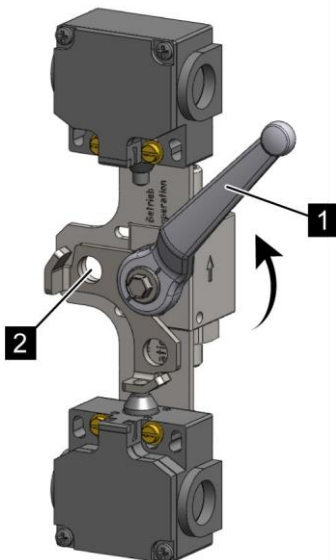

Fig. 27: Resetting the isolation (optionally with 1 or 2 limit switches)
3. ➤ Open and remove the padlock at the locking eye (Fig. 27/2) of the blocking device.
4. ➤ Turn the ball valve (Fig. 27/1) of the blocking device as far as it will go in counterclockwise direction (Fig. 27/arrow).
5. ➤ Hook the padlock into the locking eye (Fig. 27/2) of the blocking device and lock it.